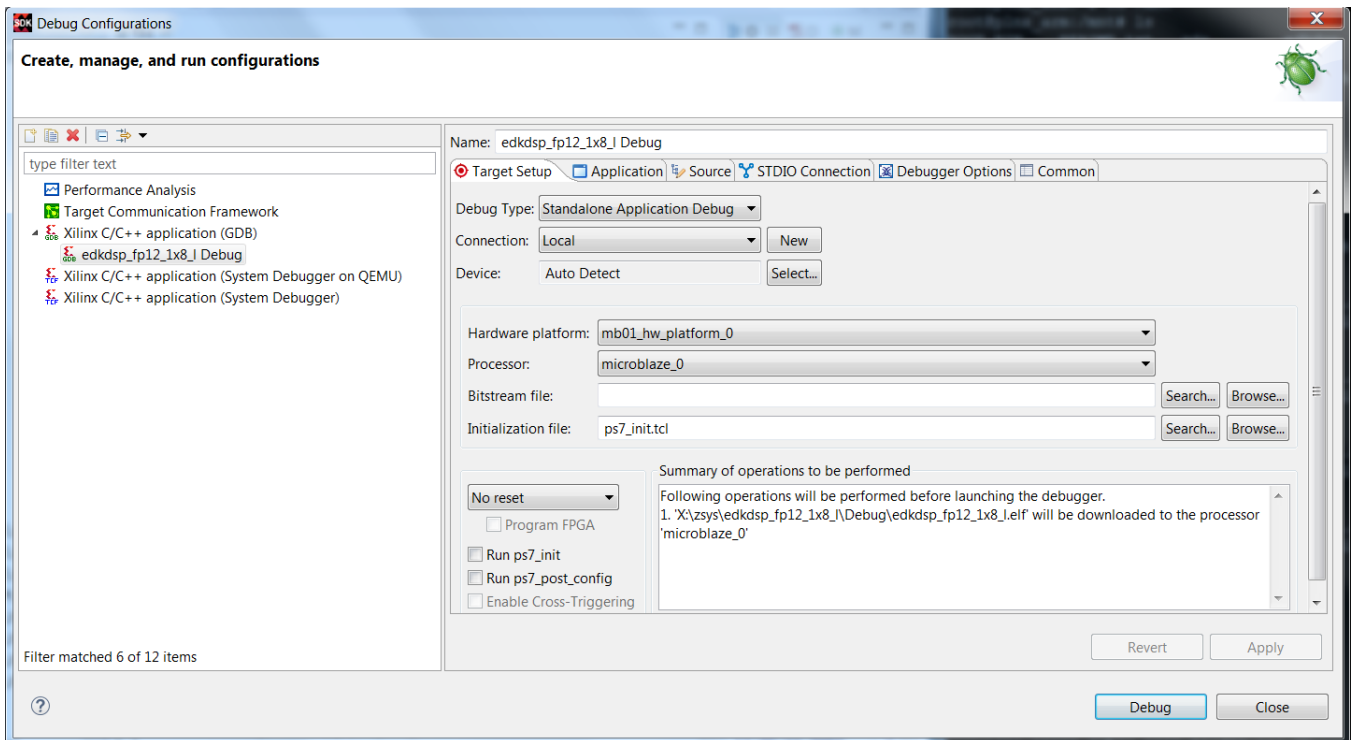

Figure 25: Select MicroBlaze project edkdsp_fp12_1x8_I for debug.
- In the Xilinx SDK environment on the PC, select debug project (See *Figure 25*):